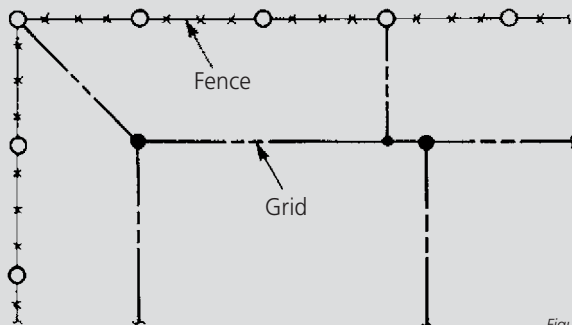

Figure 73.
1. Tie the fence grounding system into the sub-station ground grid (Figure 73). This method must be used if the fence is within the ground grid area.
The grounding connections shall be made either to the grounding system of the enclosed equipment or to a separate ground. (See Figures 73, 74 & 75.)